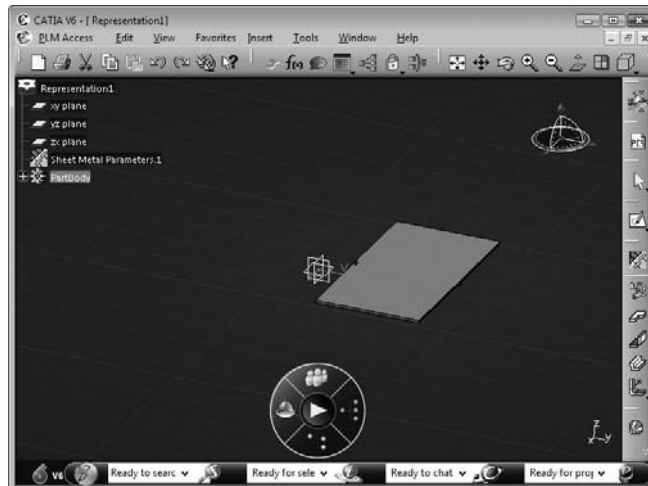

FIGURE 6.57
2. *Create* a base wall and then *draw* a sketch on the base wall using the Sketcher workbench. In our case, we have drawn a line on the base wall, as shown in **Figure 6.57**: